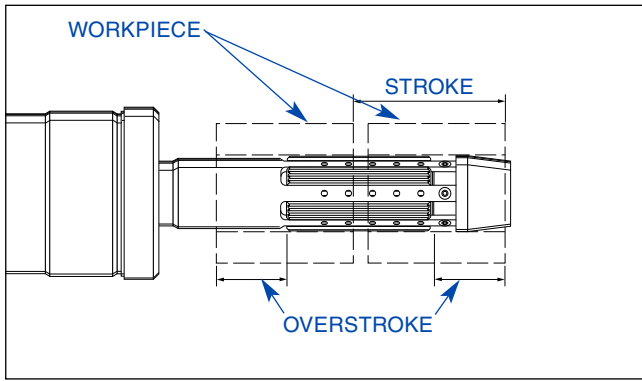

FIGURE 3-2, Overstroke
• Check stroke position: Use Palm Buttons to slow stroke tool through bore several times to ensure proper clearance (see Figure 3-2).